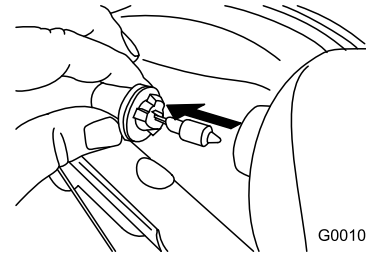

Figure 56
3. Remove the bulb straight out from the back of the headlight (Figure 56).